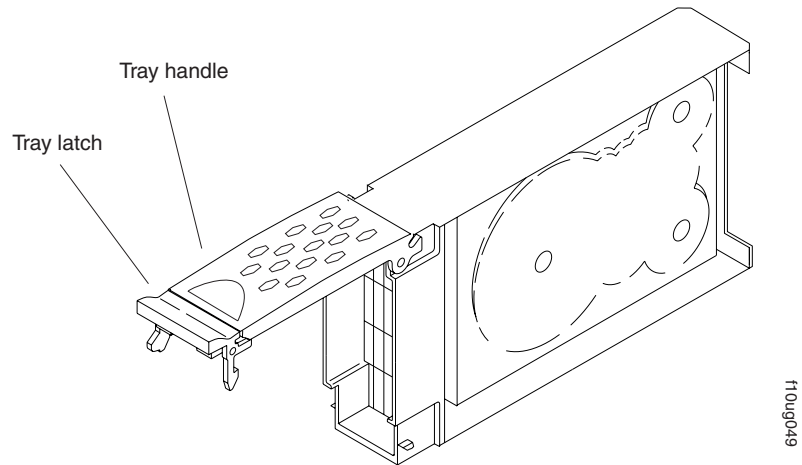

Figure 62. Drive CRU handle
- b. Pull the handle on the tray out so that it is in the open position, as shown in Figure 62 on page 87.
- a. Release the latch on the drive CRU by pinching together the blue line on the tray latch and the finger hole on the tray handle, as shown by the arrow in Figure 62 on page 87.